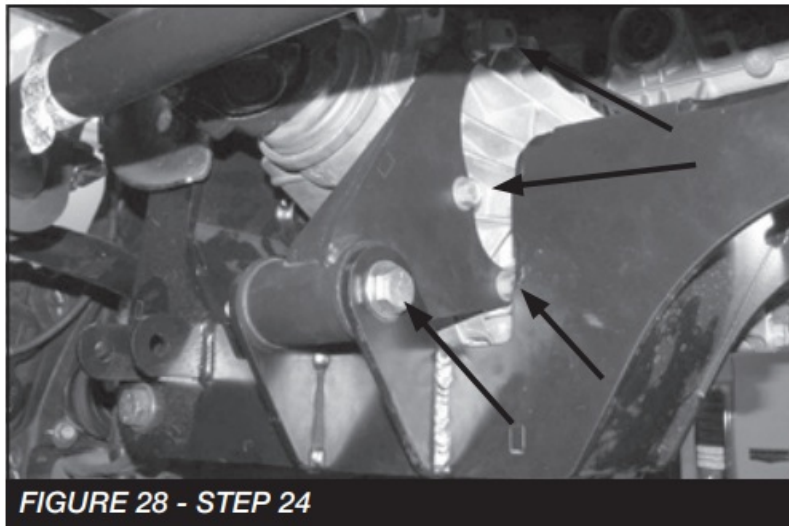

FIGURE 28 - STEP 24
24. Install diff bracket using the factory bolts and the 1/2-13 x 4-1/2" bolt, nut, and washers. Torque 1/2" hardware to 127 ft-lbs and factory hardware to 58 ft-lbs SEE FIGURE 28